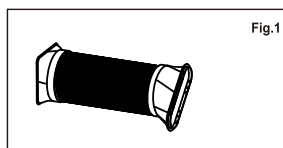

Fig.1
- The exhaust duct assembly has been assembled and does not need to be connected again. Please check.(fig.1)